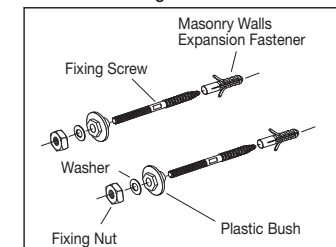

Fig. 2
- 3- Insert Expansion Fasteners into the drilled holes in masonry wall. The Fixing Screws should be screwed into the wall using the flat section of the Fixing Screw with a spanner as shown in **Fig. 2**. Allow 43 mm of thread to protrude from the finished wall.